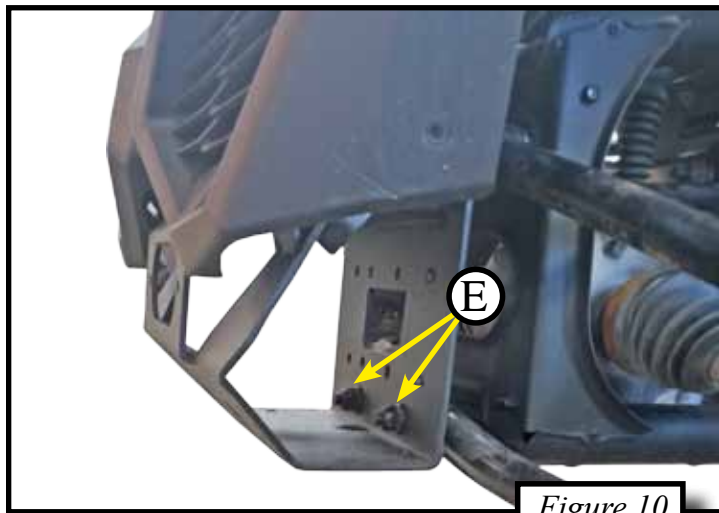

Figure 10
11. Place the winch mount under the grill and line up the four holes in the mount with the A-arm bolts. Attach the nuts (E) & (F) previously removed to secure the mount in place. Tighten down all four bolts. Shown in Figures 10 & 11.